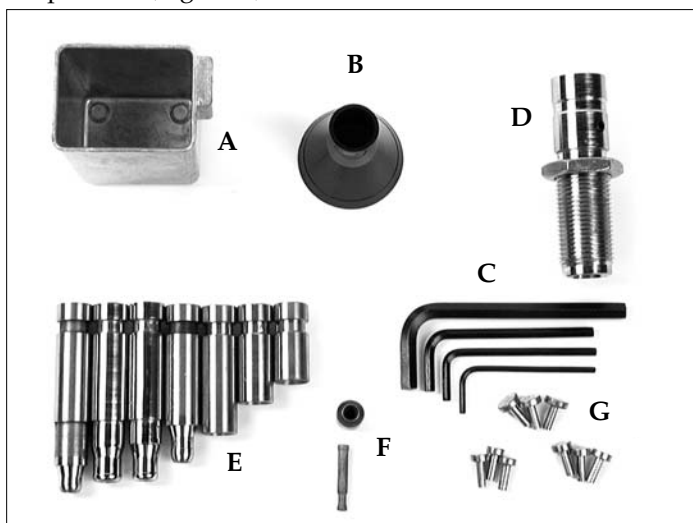

Figure 2– A) Spent Primer Cup B) Plastic Funnel C) Hex Wrenches D) Powder Die with Lock Ring E) Powder Funnels F) Small Primer Cup and Pin G) Locator Buttons
- Accessory Bag including: (Figure 2)
- Conversion Kit including: (Figure 2)
Double-check now to make sure all the parts needed are present. (Figure 2)